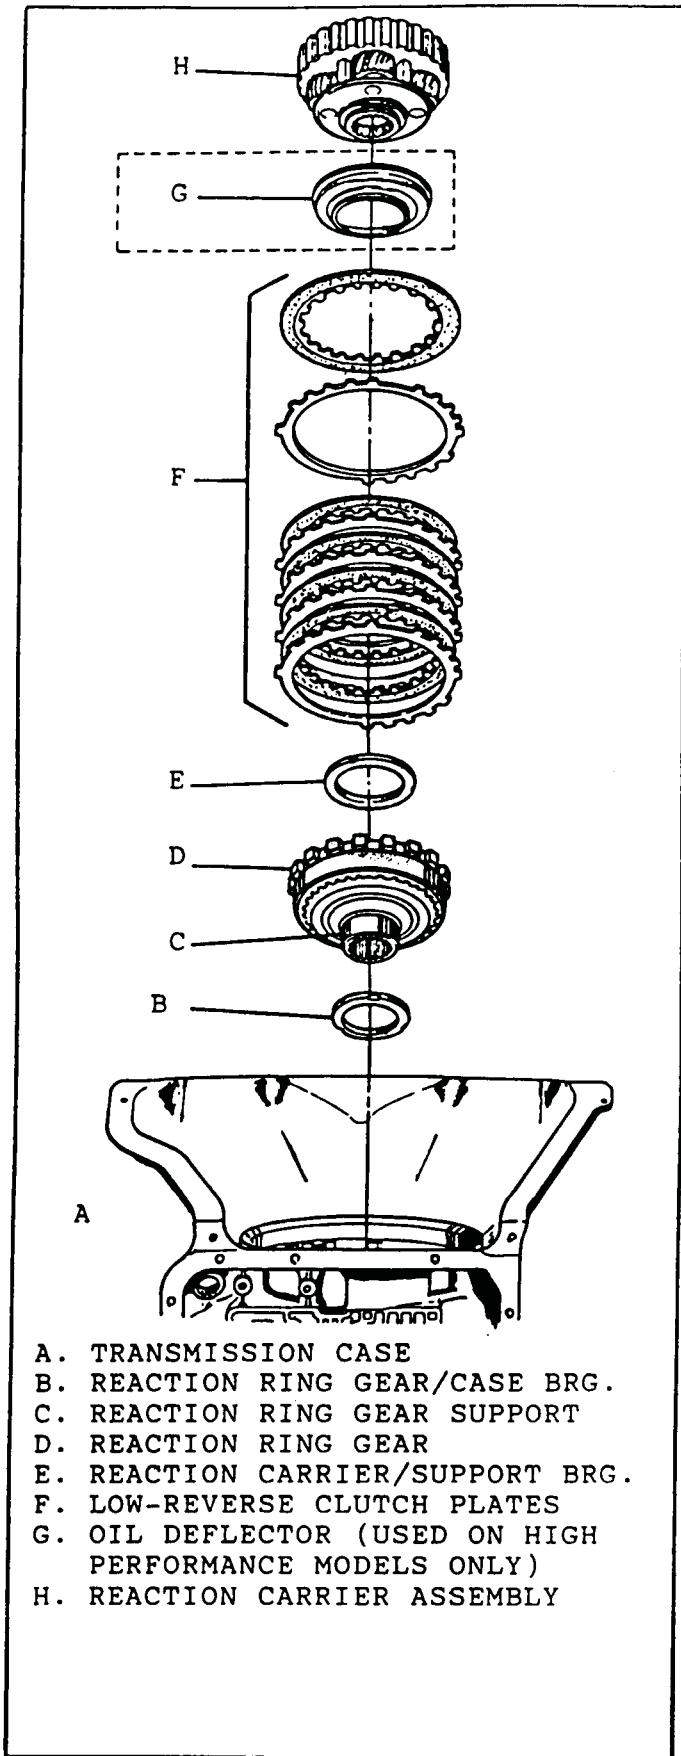

Figure 71
4. Remove the reaction carrier (Figure 71).